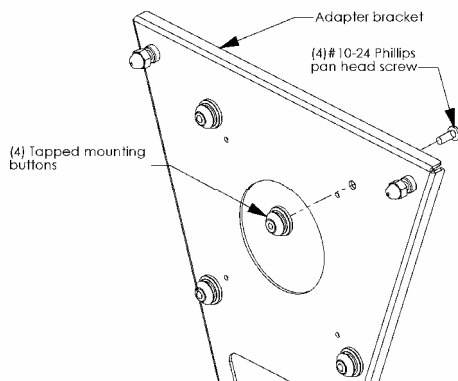

Figure 2
1. Install four mounting buttons in 5" hole pattern on the adapter bracket using four 10-24 x .50" Phillips pan head screws (see Figure 2).